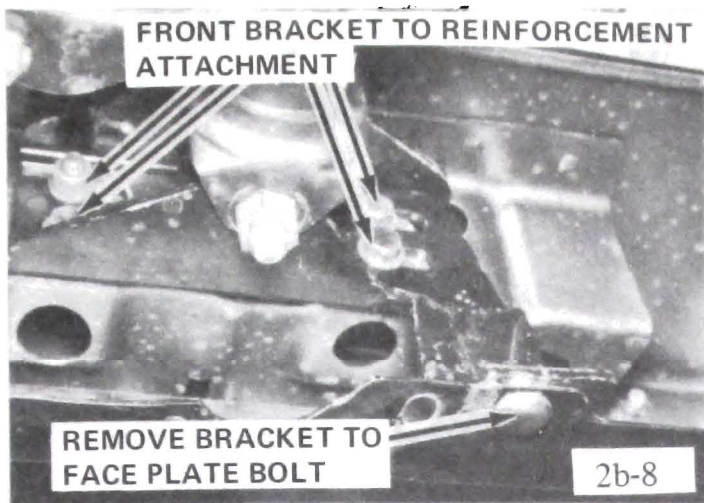

Figure 2B-8 Faceplate to Unit Bracket Bolt "A" Series
2. Remove the 6 bolts and 2 nuts that attach the energy absorbing unit front brackets to the bumper reinforcement. Remove the 2 energy absorbing unit front bracket to faceplate bolts (Figure 2B-8).
4. Remove the energy absorbing unit front bracket to unit bolts (Figure 2B-9).